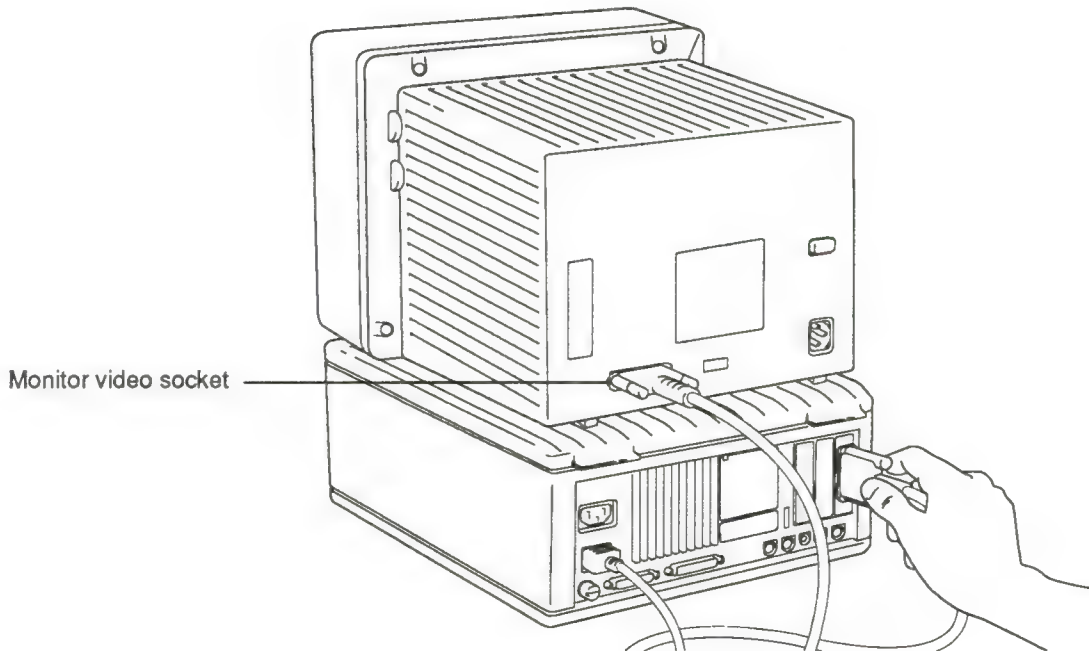

Figure 27. Connecting the video cable
12. Plug the other end of the video cable into the socket on the video card and tighten the thumbscrews. Connect the cable to the card through the opening in the computer's back panel as shown in Figure 27.